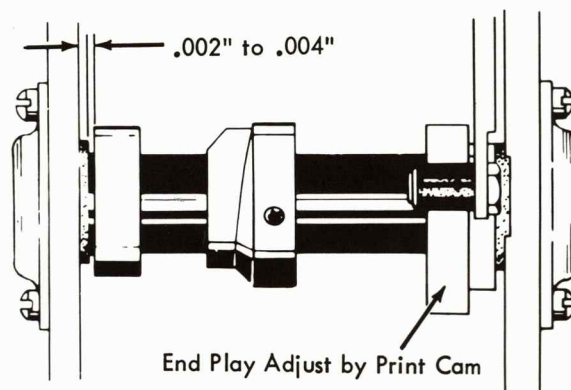

FIGURE 53. Print Sleeve End Play
8. **Print Sleeve End Play** - Adjust the print sleeve end play to be .002" to .004". The end play is controlled by the print cam on the right hand end of the sleeve. The adjustment should not be gained with the ribbon lift cam because its set screw tightens down into a dimple in the print sleeve fixing the position of the cam (Fig. 53).